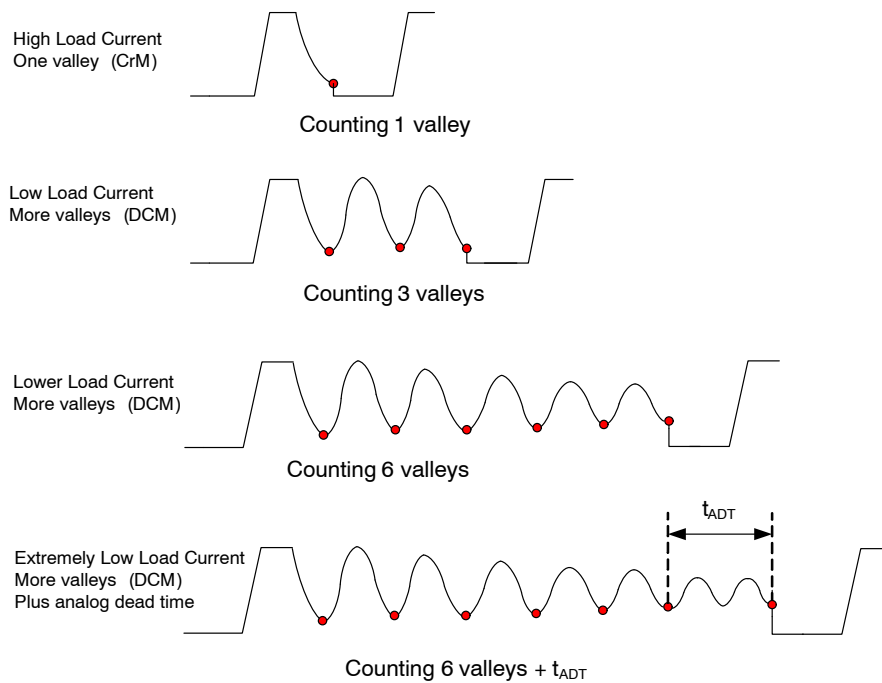
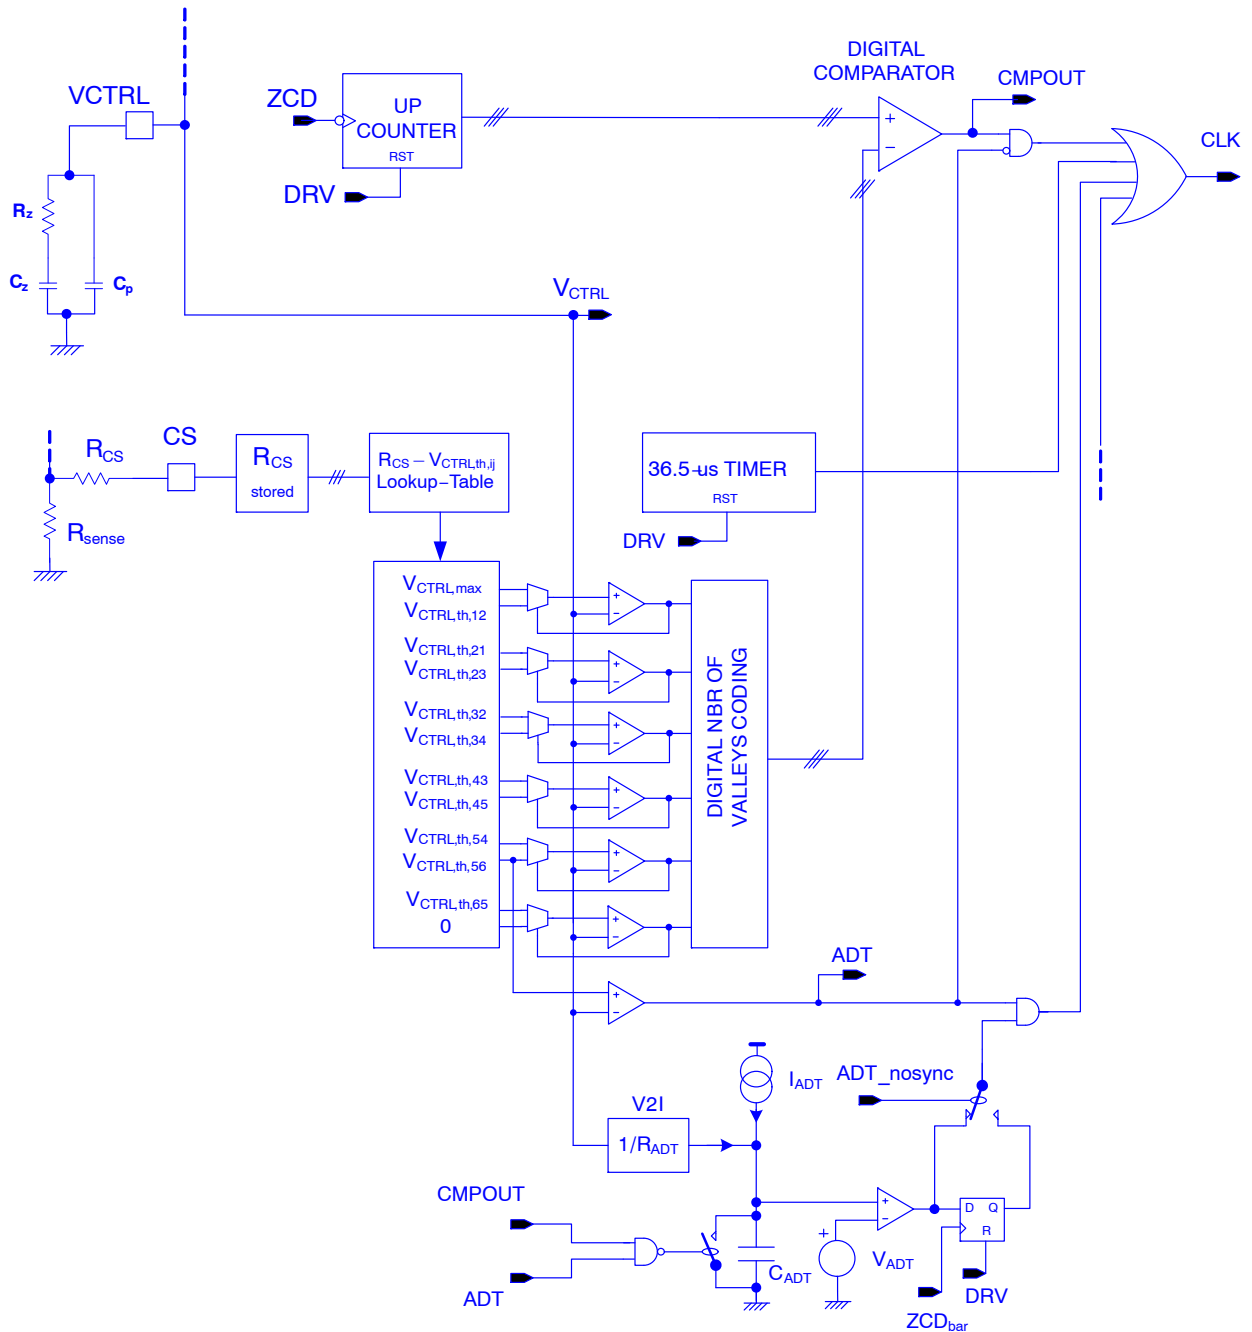

Figure 3. Valley Switching Operation in CrM and DCM Modes Seen Through Power MOSFET Drain Voltage
Figure 4. Valley Count Turn-on Block Diagram
- **Valley Count Frequency Fold-back:** NCL2801 is designed to drive PFC boost stages in so-called Valley Count Frequency Fold-back (*VCF*). In high load current condition, the circuit classically operates in *Critical conduction Mode (CrM)* also called 1st valley switching. When output power is decreasing, if a threshold is reached (determined by sensing the CS pin impedance during initial power up), a dead time based on a number of valleys is added. The number of valleys will increase, each time a dead time window (based on V_{CTRL} value) is entered. By construction, this counting process will avoid valley hopping during the mains voltage period. If the output power continues decreasing and the 6th valley is reached, extra “analog” dead time will be added based on a voltage ramp (see Figure 4). On-time will be synchronized with a valley. A timer will clamp the total switching period to not exceed 36.5 μ s (the switching frequency will never go under about 27.4 kHz). The switching frequency depends on output voltage, input voltage, and boost inductor value, and increases as the load power increases. Hysteresis is added to the V_{CTRL} control windows to avoid valley hopping during steady state conditions. *VCF* maximizes the efficiency at both nominal and light load. Similarly to *FCCrM* controllers, an internal circuitry allows near-unity power factor even when the switching frequency is reduced.
valley number count up to 6 valleys (the number of valleys between end of inductor demagnetization and power MOSFET turn-on determines the dead time value). After counting is done, the power MOSFET turns on at drain voltage valley. When 6th valley is reached and VCTRL voltage stays under 0.77 V, an extra “analog” dead time is added based on a voltage ramp (see Figure 4). The added analog dead time t_{ADT} is based on 0.77 V minus VCTRL value. t_{ADT} will be equal to zero when $(0.5\text{ V} - V_{CTRL}) = 0\text{ V}$ and will increase monotonically versus VCTRL decreases while VCTRL is under the 0.77 V threshold corresponding to $V_{CTRL,th,56}$. The analog dead time added t_{ADT} will equal typically 20 μs when $V_{CTRL}=0.5\text{ V}$.
As illustrated in Figure 3, under high load conditions, the boost stage is operating in CrM (only one valley is counted before turning on the power MOSFET). The second example shows a DCM state of operation where 3 valleys have been counted before turning on the power MOSFET. The third example shows a DCM state with lower output power than the previous one where 5 valleys have been counted before turning on the power MOSFET. The fourth example shows how additional dead time is added after 6th valley.
means of counting the falling edges of the ZCD signal until the counter reaches the number of valleys set by the window in which the VCTRL pin voltage is (see Figure 4). The 3-bit counter allows to work “Valley synchronized” up to 6 valleys. When the 6th valley is reached, and VCTRL is lower than 0.770 V ($V_{CTRL,th,56} = 0.770$ V whatever frequency foldback threshold setting), an additional analog dead time will be added to the 6 valleys dead time and there will be valley synchronization turn-on of the power MOSFET ($ADT_nosync = 0$ by default) based on falling edge of ZCD signal. The total dead-time (number of valleys and extra analog dead-time) will not exceed 36.5 μ s. As a result of this timer the minimum switching frequency will not go under 27.4 kHz.
There will be a different DCM to CrM threshold than CrM to DCM making an hysteresis to avoid valley hopping (see Table 7 and Figure 4).
results from output power decrease. We can also mention looking at Figure 7 and the specified frequency foldback thresholds of Table 7 that $V_{CTRL,th,56}$ which is the V_{CTRL} threshold at which we force counting 6 valleys, has always the same value. This threshold is also called $V_{CTRL,ADT}$ because when V_{CTRL} pin voltage falls under this threshold, an analog dead-time starts to be added to the dead-time determined by counting 6 valleys. The lower V_{CTRL} pin voltage goes under $V_{CTRL,ADT}$ threshold, the more analog dead time is added. An example on how the analog dead time can be added is shown in the circuit of Figure 4 and the correspond power MOSFET drain voltage is shown in Figure 3.